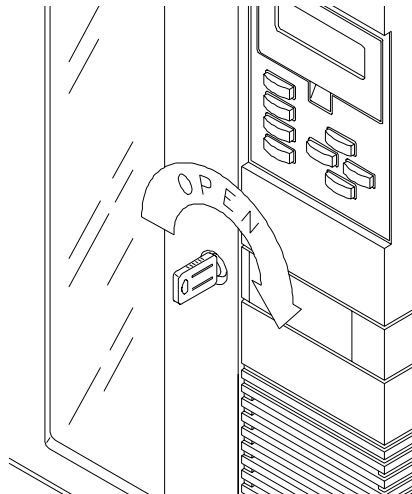

Figure 3-2 Opening the library door
1. Turn the door latch handle one quarter turn to the right, as shown in Figure 3-2.